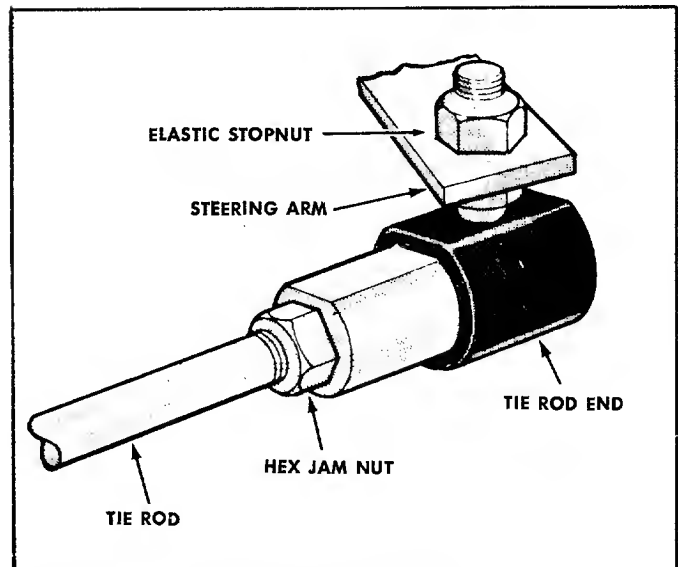

FIGURE 25. TIE ROD ADJUSTMENT
- Step 1. Loosen the hex jam nut. See figure 25.
- Step 2. Remove the locknut and drop the tie rod end out of the wheel bracket. See figure 25.